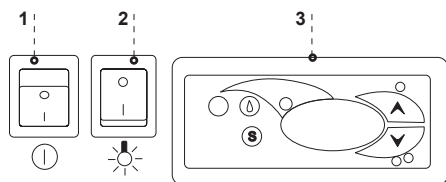

Fig.6 Control panel of the device
- Turn the main switch on Fig. 6, which will activate the thermostat followed by activation of the refrigeration unit
NOTE: If the thermostat display (for „Igloo“ thermostat) Fig.6/3 only shows two dots at the bottom instead of the temperature, this means that no unit is attached (cooling function disabled). In this case, switch the cooling on/off button on the thermostat panel - see Fig.11/1 !
- Set the temperature on the thermostat panel Fig. 6/3
- Turn the lighting switch on Fig. 6/2